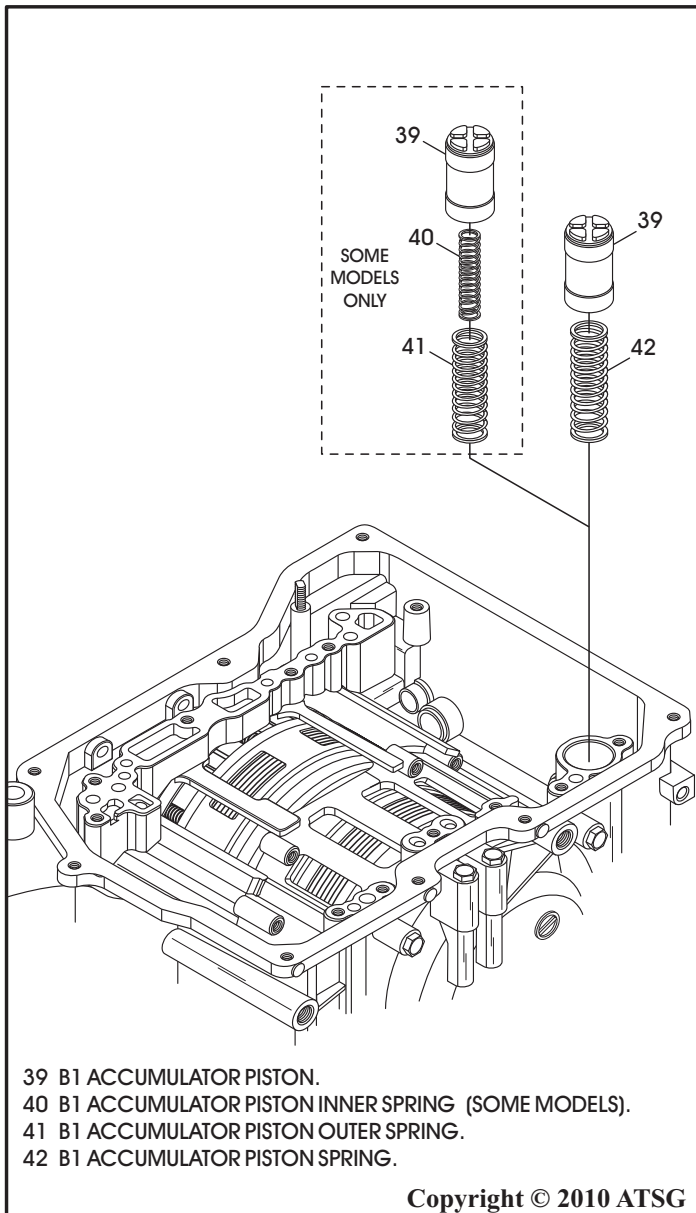

Figure 61
6. Remove the B1 accumulator piston and springs from transaxle case, as shown in Figure 61.